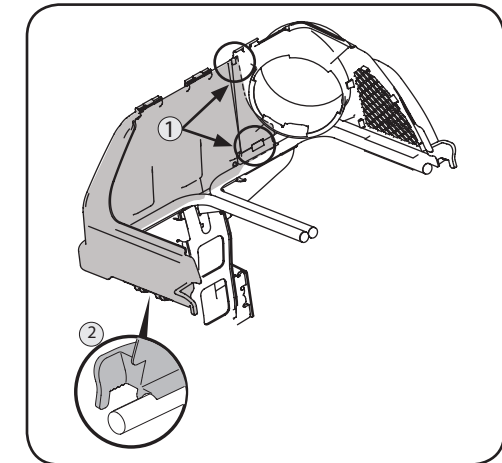

Figure 4-13
3. Slide the left side grass catcher cover over the upper chute support and the bag support assembly. Carefully latch the two tabs in place into the front of the upper chute support, see 1 in Figure 4-13. Fit the snaps onto the left side bagger rail support. See 2 in Figure 4-13.